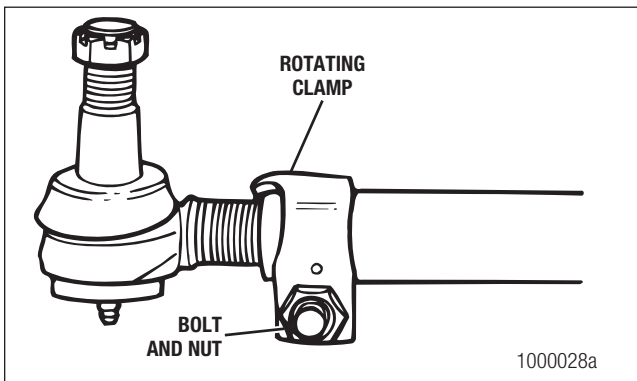

Figure 4.3
- b. Remove the bolts and the nuts from the clamp on the cross tube. The rotating style clamp on the cross tubes can be rotated for easier accessibility when removing the clamp bolt and nut. Figure 4.3.